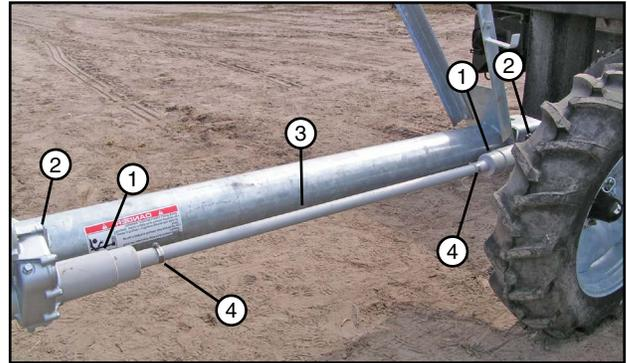

Figure 39-1 Operation Position
- Slide the U-joint shield over the U-joint and position approximately 1/4 in (6.3 mm) away from touching the gearbox. Secure the U-joint shield to the drive shaft shield with a clamp. See Figure 39-1.